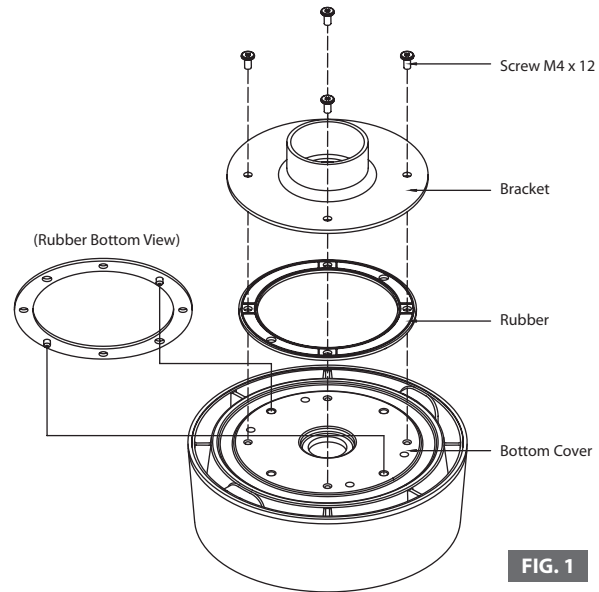

FIG. 1
1. As above FIG.1, assemble rubber and bracket on the bottom of camera. (FIG. 1)